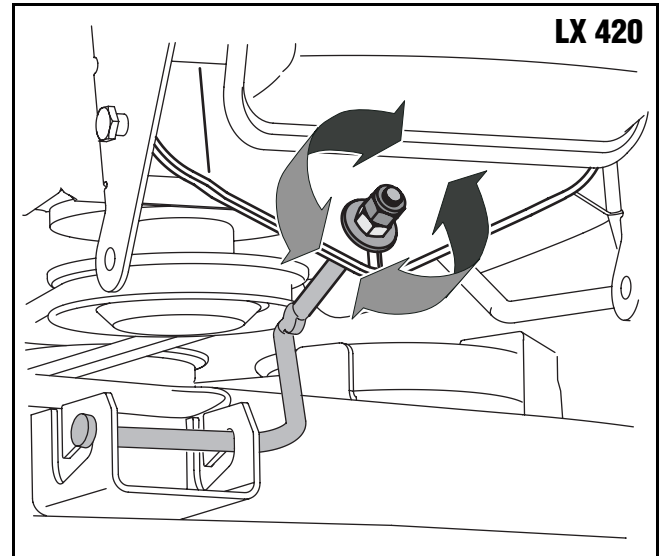
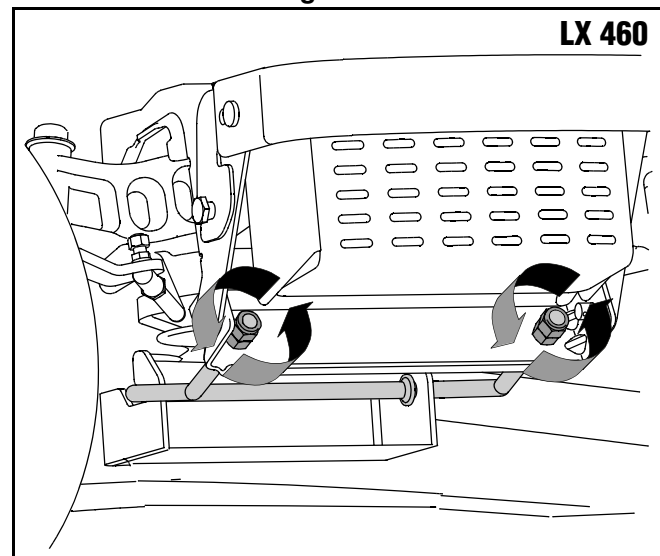

Figure 12
Figure 13
5. From the front of the tractor, loosen the outermost hex lock nut(s) on the end(s) of the deck hanger rod. See Figure 12 or Figure 13.
6. Tighten the inner hex nut(s) front against the front hanger bracket to raise the front of the deck; loosen the hex nut to lower the front of the deck. See Figure 12 or Figure 13.